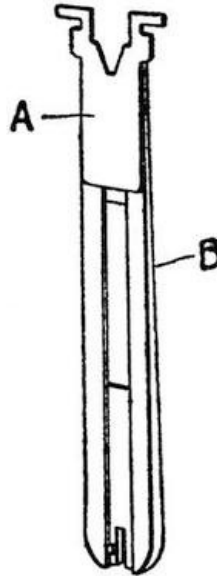

FIG. 73.—A LINOTYPE SPACE BAR
The method of spacing which was a later development of the linotype is also very ingenious. The compositor does not have to bother with the width of spaces required to fill out a line. He merely touches the space key at the end of each word and a space bar drops into place. Each space bar is formed of a pair of wedges and after the line has been assembled the space bars are automatically expanded to fill out the line completely by mechanism which holds down one wedge member (A, Figure 73) and slides up the other (B).